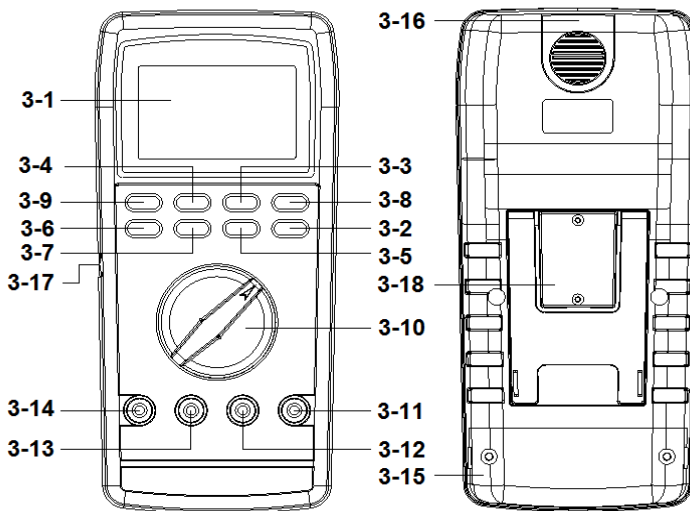

Fig. 1
- a. When not use the meter, should rotate the " Function rotary switch " ( 3-10, Fig. 1 ) to the " OFF " position.
**Press the " TIME button " ( 3-3, Fig. 1 ) into the setting mode,the Poff set " no "**
- 1) Connect BLACK test lead into " COM " terminal ( 3-12, Fig. 1 ).
- 2) Connect RED test lead into " V " terminal ( 3-11, Fig. 1 ).
- 3) Select the " Function rotary switch " ( 3-10, Fig. 1 ) to the " V " position.
- 4) Push the " AC/DC button " ( 3-9, Fig. 1 ) to select the " ACV " or " DCV " measurement,
- 6) Under the operation of " auto range " mode, push the " Range button " ( 3-6 Fig. 1 ) once will execute the " Manual Range " mode and hold the range, the LCD will show the " MANU " marker.
Under the manual range operation, push the " Range button " ( 3-6 Fig. 1 ) > 2 seconds, will return to auto range operation.
*During the measurement, if push the " V/A/Hz button " ( 3-7 Fig. 1 ) once, until the LCD show the " Hz " marker and the display will show the frequency value of the measurement signal.*
- 2) Connect RED test lead into "  $\Omega$  " terminal ( 3-11, Fig. 1 ).
- 3) Select the " Function rotary switch " ( 3-10, Fig. 1 ) to the "  $\Omega$  " position.
5) Under the operation of " auto range " mode, push the " Range button " ( 3-6 Fig. 1 ) will execute the " Manual Range " mode and hold the range, the LCD will show the " MANU " marker.
- 2) For the " mA, uA " measurement, connect RED test lead into " mA uA " terminal ( 3-13, Fig. 1 ).
For the " 10 A " current measurement, connect RED test lead into " A " terminal ( 3-14, Fig. 1 ).
- 3) For the " uA " measurement ( 600 uA, 6000 uA ), select the " Function rotary switch " ( 3-10, Fig. 1 ) to " uA " position.
For the " mA " measurement ( 60 mA, 600 mA ), select the " Function rotary switch " ( 3-10, Fig. 1 ) to " mA " position.
For the " 10 A " measurement ( 6A,10A ), select the " Function rotary switch " ( 3-10, Fig. 1 ) to " A " position.
- 4) Push the " AC/DC button " ( 3-9, Fig. 1 ) to select the " ACA " or " DCA " measurement,
- 3) Select the " Function rotary switch " ( 3-10, Fig. 1 ) to the "  " position.